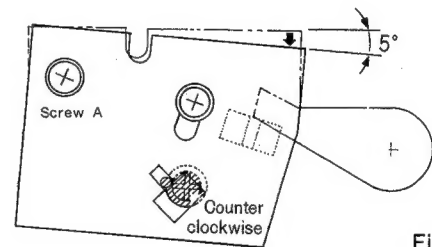

Figure 25
6. Turn the Phono PWB Assy clockwise by approximately 5° with the screw A as a center (Fig. 25).